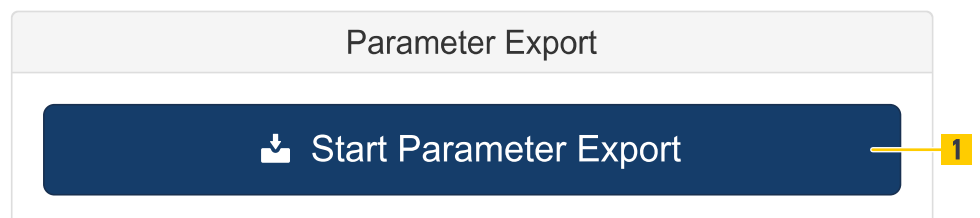

Fig. 143: Parameter Export
- Parameter settings from one device can be exported as a backup and can be imported into a different device. That makes it easier to deploy complex settings (e.g. network server settings). To download the file click Start Parameter Export (Fig. 143 /1).